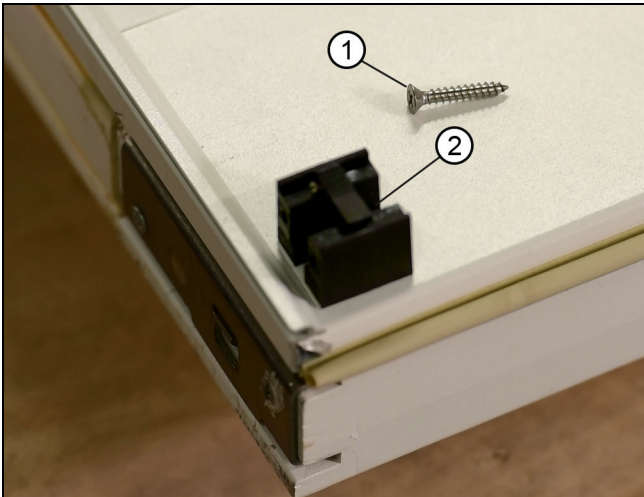
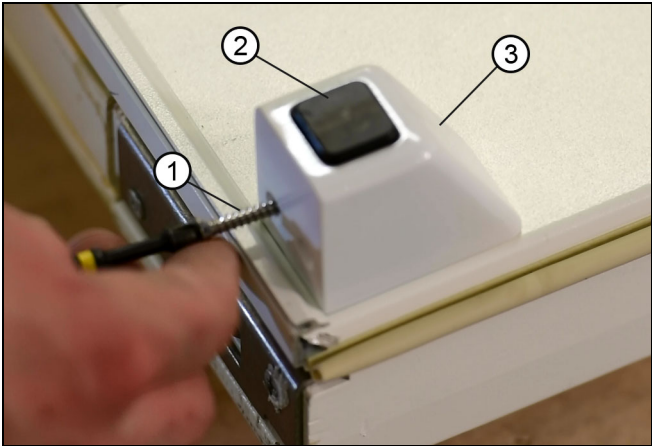

Figure 57
Figure 58
2. Locate any panels with the letter "M" on the end. Example (ELM). Install the magnetic catch base to the top and bottom panels prior to installing the panels. Position the magnet pads into the aluminum covers. Then fasten each to the base. See Figure 57 and Figure 58.